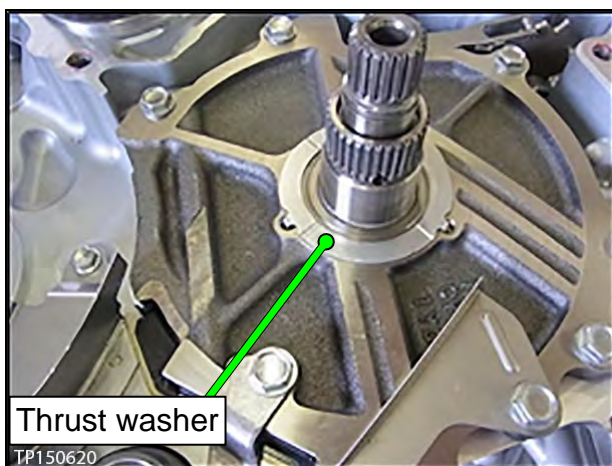

Figure 34
3. Remove the thrust washer (see Figure 34).